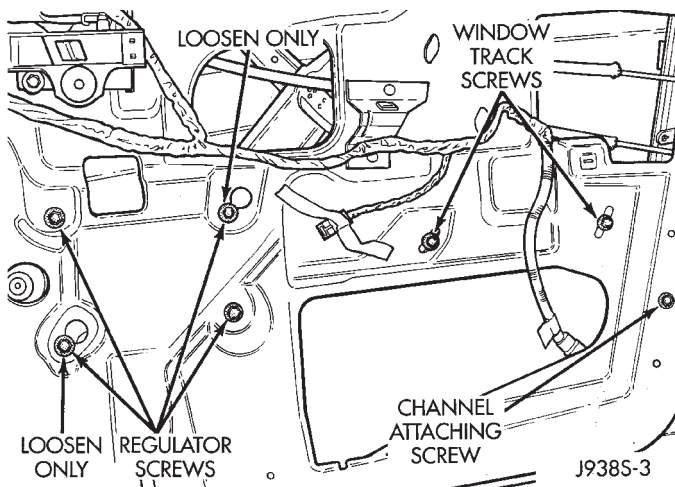

Fig. 7 Front Door Window Regulator
(4) Remove 4 window regulator retaining screws (Fig. 7).
(5) Remove 2 door track screws (Fig. 7)
(6) Lift window upward and separate it from regulator. Support window.
(7) Remove window regulator from door.